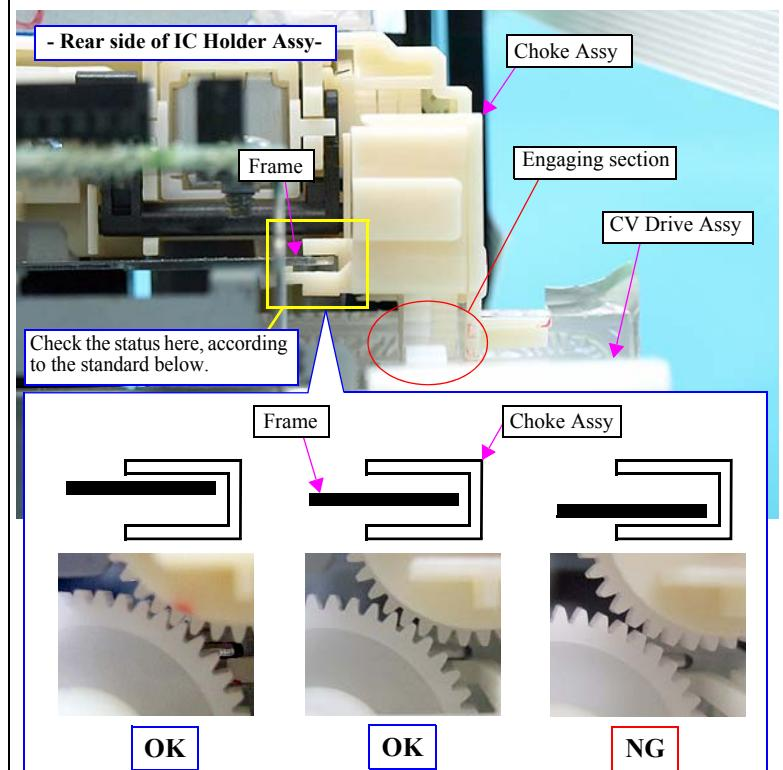
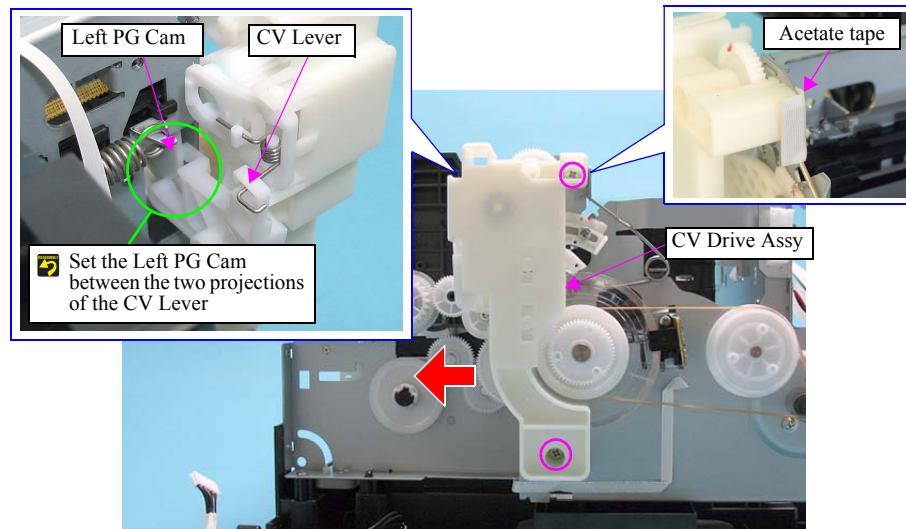

Figure 4-95. Check for Engagement of the CV Drive Assy and the Choke Assy
Figure 4-98. Removing the CV Drive Assy
6. Return to the step 3, and check the status according to the standard shown in Figure.4-95.
**NOTE:** If NG according to the standard shown in Figure.4-95, the reasons might be because the acetate tape (Figure.4-98) attached to the CV Drive Assy is folded and prevents the Choke Assy from staying in the right position. In such a case, unfold the tape taking care not to damage the Ink Tube, and secure the Choke Assy once again.
- Set the CV Lever of the CV Drive Assy as shown in Figure 4-98.